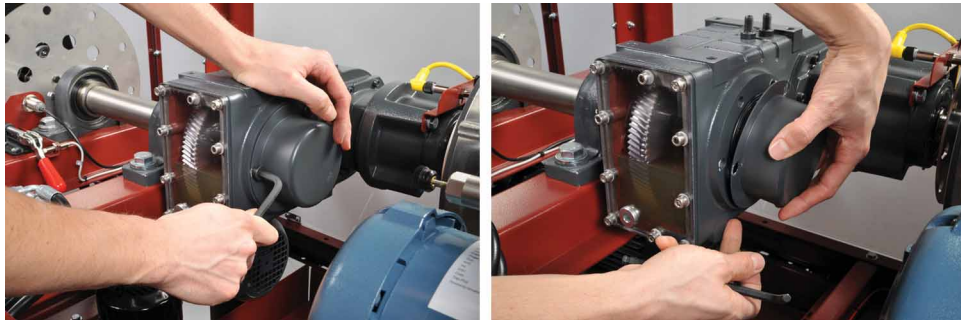

Figure 2-37. Removing the shrink disk cover.
36. Remove the gearbox shrink disk cover using the 7 mm hex key (Figure 2-37). Also remove the o-ring under the cover so that it does not fall inadvertently.